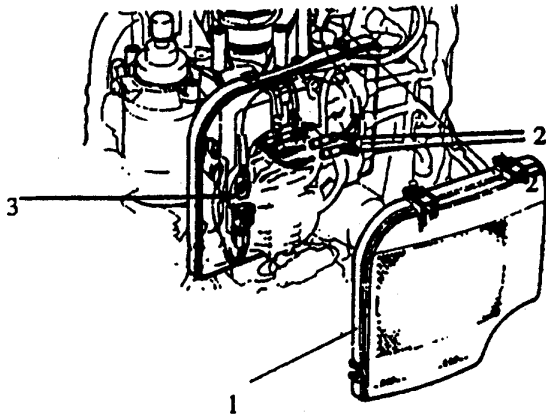
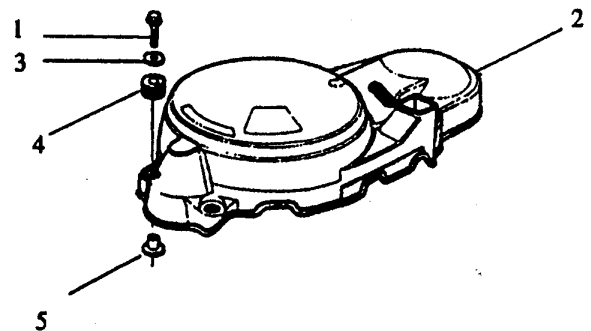

Fig.. 3-1 Coil connections
Fig. 3-2 Flywheel cover
Remove the capacitor discharge ignition cover (1) and disconnect the charging-coil wire (2) – Fig.3-1, and recover the M6 washers (3), rubber grommets (4) and collars (5) – Fig. 3-2.
Unscrew the two M6 screws (1) and two M8 screws securing the flywheel cover (2) – Fig.3-2, and exciter-coil wire (3) connectors – Fig. 3-1.